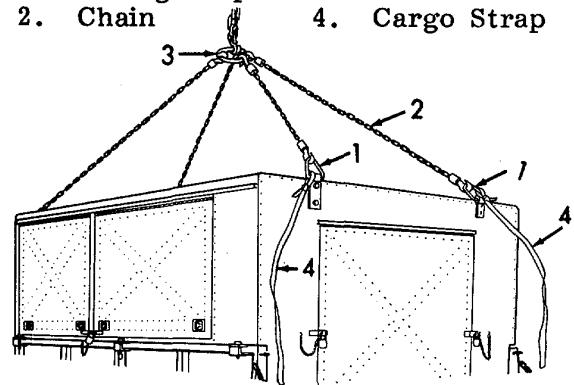
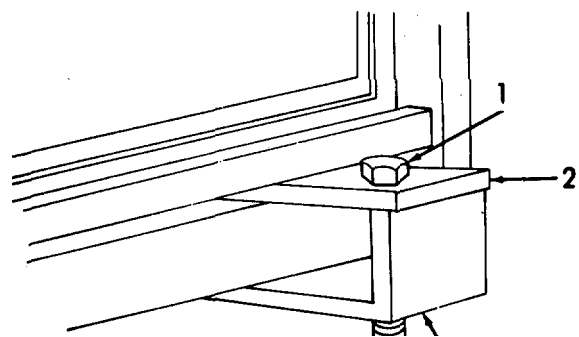

Figure 6-1. Holddown Clamp, Unhooking.
Figure 6-2. Holddown Clamp, Unhooking.
- (1) Inspect for loose or missing hardware.
- (2) Inspect the door, panels, and other parts for damage.
- (3) Inspect the frame for damage.
b. Removal (Refer to Figures 6-1 and 6-2).
- (1) Refer to Figure 6-1. Pull the four lifting loops (1) from the spring clips and raise the loops up.
- (2) Attach a chain (2) to each lifting loop and to the hoist (3). Be sure the chains are all of equal length.
- (3) Attach a cargo strap (4) to each of the four lifting loops (1).
- (4) Refer to Figure 6-2. Loosen the screw (1) on each of the six holddown clamp assemblies (2).
- (5) Rotate the clamp arm pads (3) away from the trailer ledge.